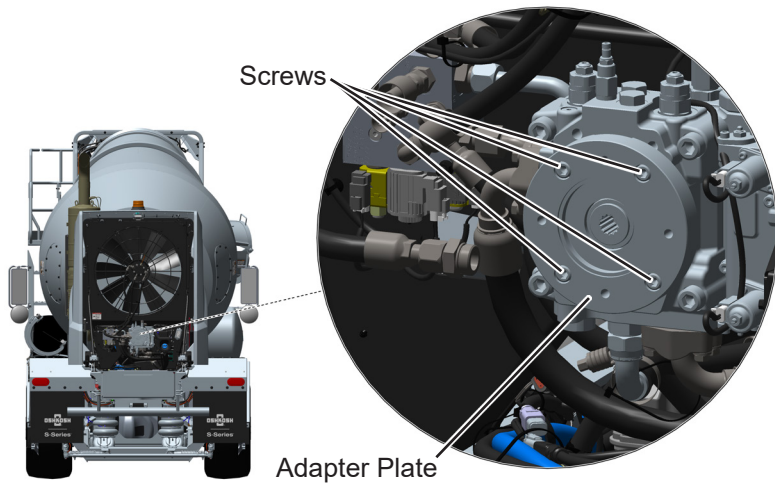

Figure 2
9. Loosen and remove 4 screws securing adapter plate to main pump. See Figure 2. Save screws for reinstallation later.
10. Remove adapter plate from main pump. See Figure 2. Save adapter plate for reinstallation later.